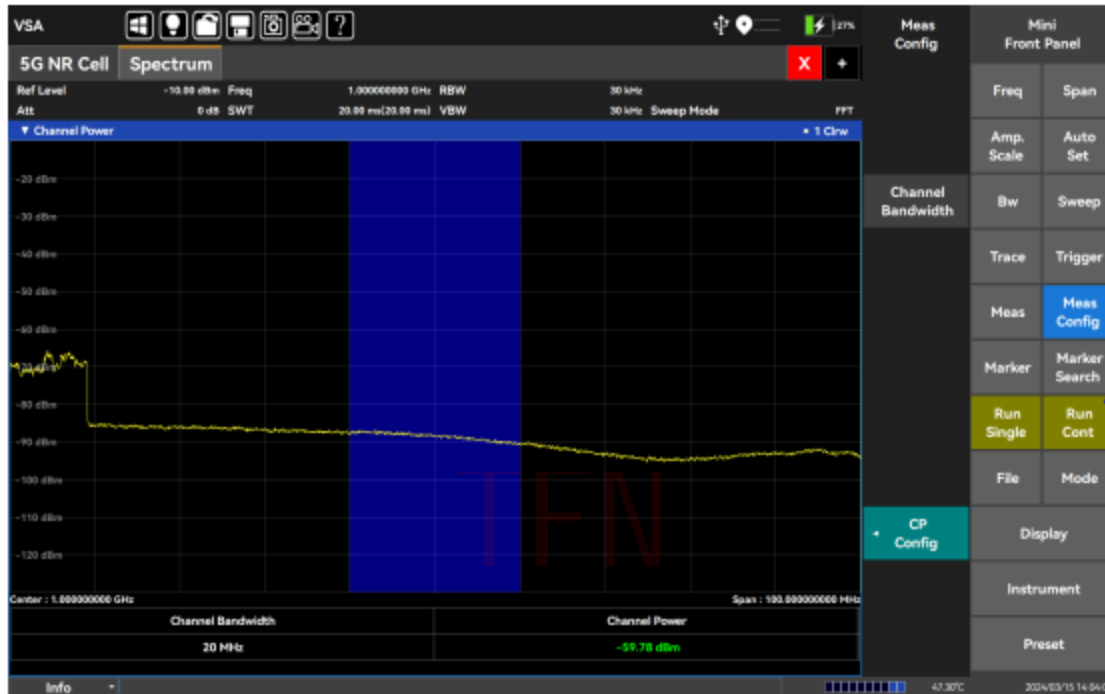

Figure 5.3 Measurement results diagram
- Press [measurement configuration], [channel power configuration] and [state], select open, and set [bandwidth] to 20 MHz. The measurement results are shown in Figure 5.3: